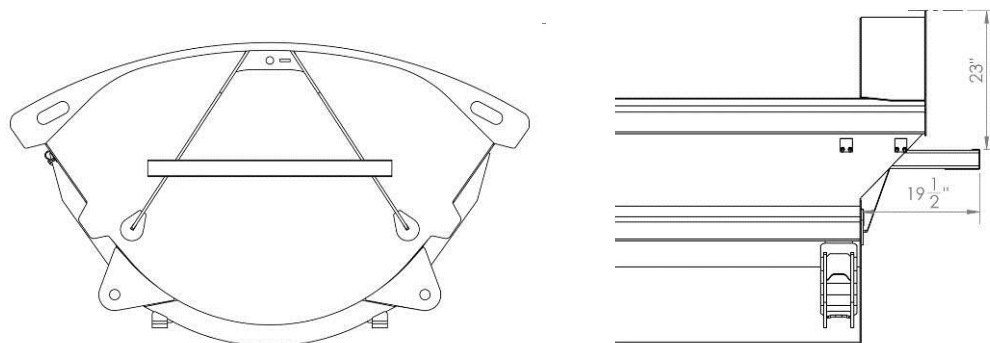

Figure 2
2. Weld the mounting legs 23" down from the top edge of the trailer. If you are using Roll-Rite brackets, make sure that the legs are not more than 48 inches apart and make sure that they do not interfere with the rotation of the cylinders. Refer to fig. 2. (The center of the pivot pin will be 29-5/8" from the top of the tub.)
3. Center the mounting brackets on the front and back of the tub and weld them to the legs that were attached earlier. Refer to fig. 2.